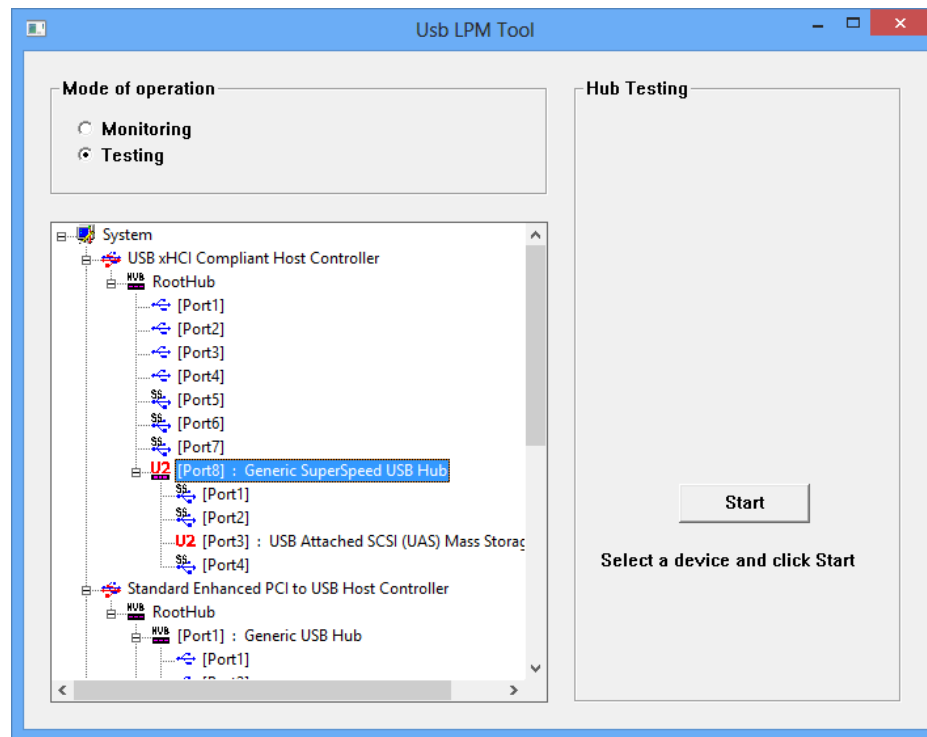

Figure 5-10: Usb LPM Tool Interface
- Select the SuperSpeedPlus hub from the list as shown in Figure 5-10.